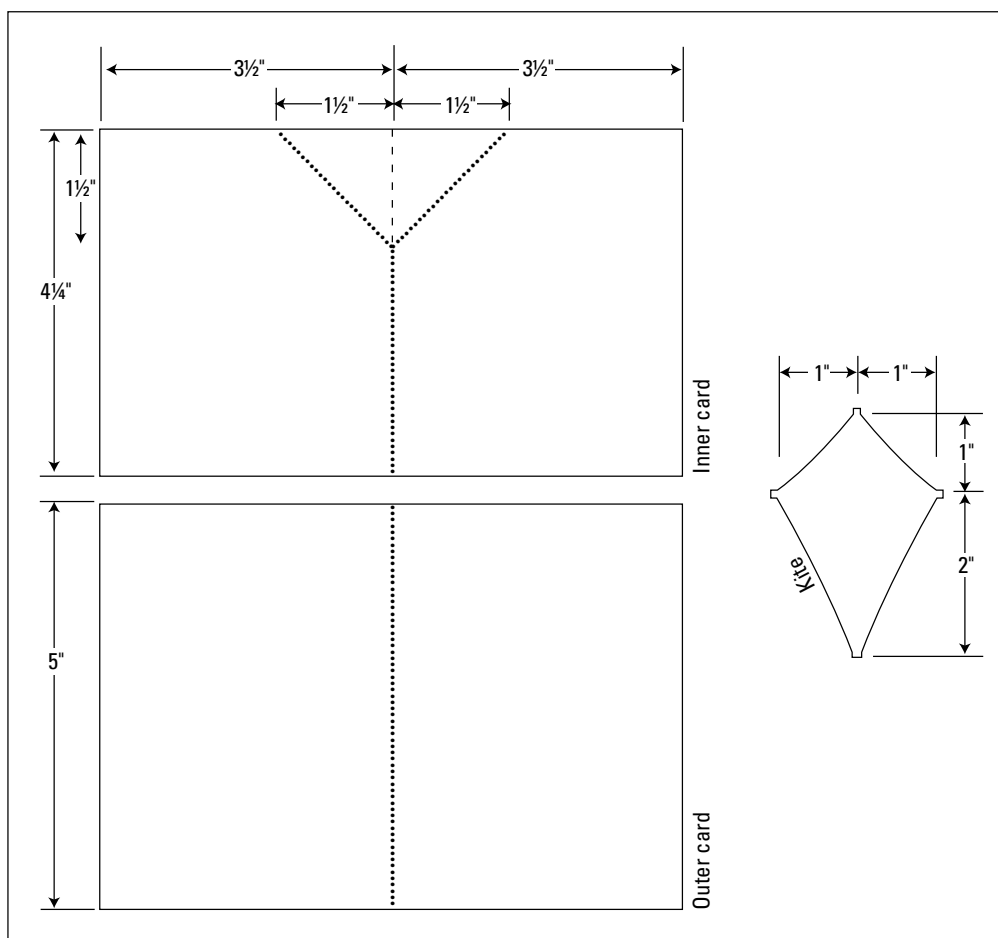

Figure 6-19:
1. Using a pencil and ruler, mark out the templates (see Figure 6-19).